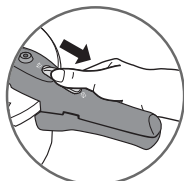

Fig 1
- Using your thumb, pull on the opening knob (**E**) and move it back to the  - Fig 1